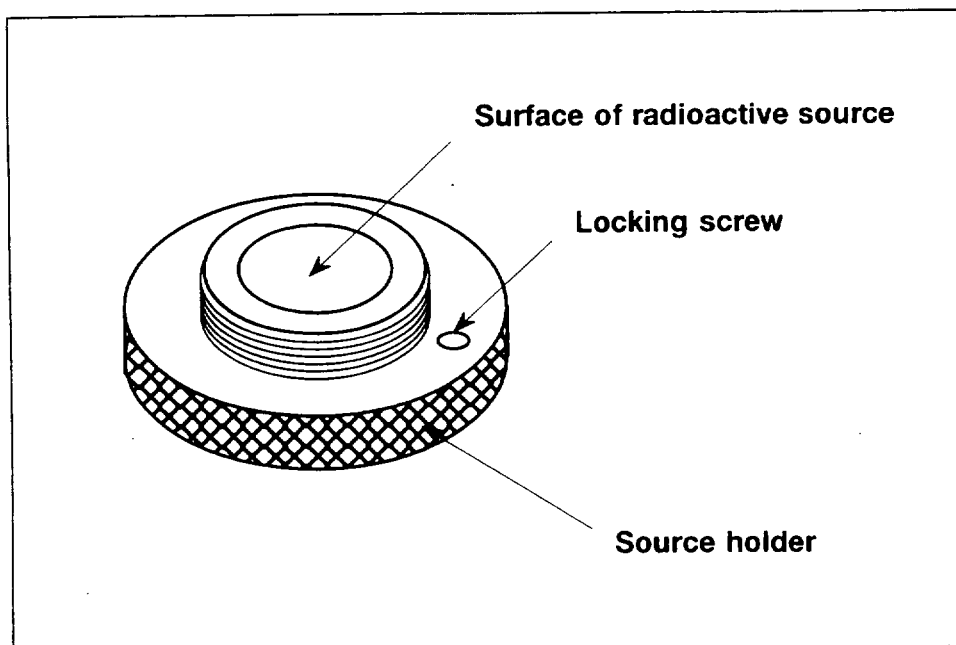

FIG. 5.1.1 Holder with radioactive source
- a) Never touch the surface of the radioactive source (*see fig. 5.1.1*) with your fingers, use disposable gloves during the work.